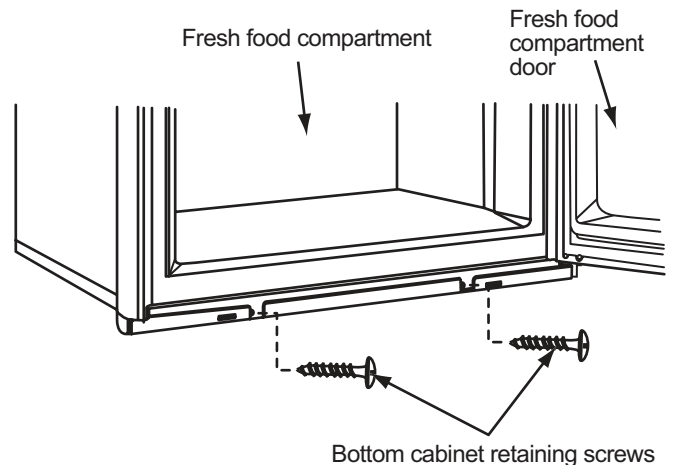

Figure 34. Bottom cabinet retaining screws.
3. Install the two retaining screws in the bottom of the cabinet. See Figure 34.